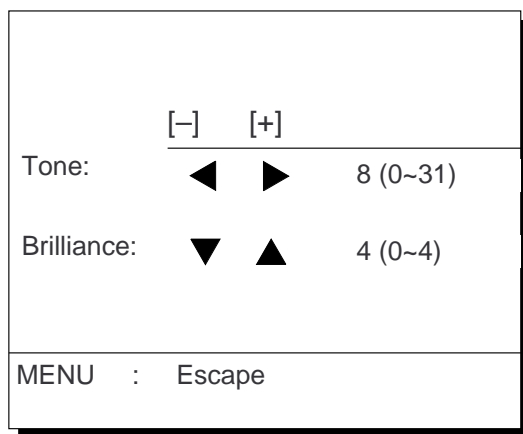

Figure 1-3 Screen for adjustment of display contrast and brilliance
- 1) Press the [TONE] key. The display shown in Figure 1-3 appears.